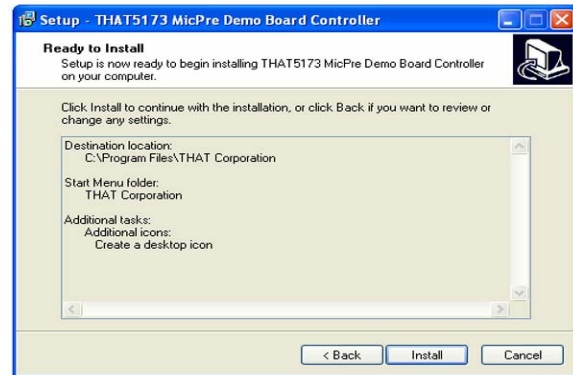

Figure 9. Ready to install
8. Finally, the wizard will stop asking you questions and get on with the business of installing the GUI, as shown in Figure 9. Click INSTALL.